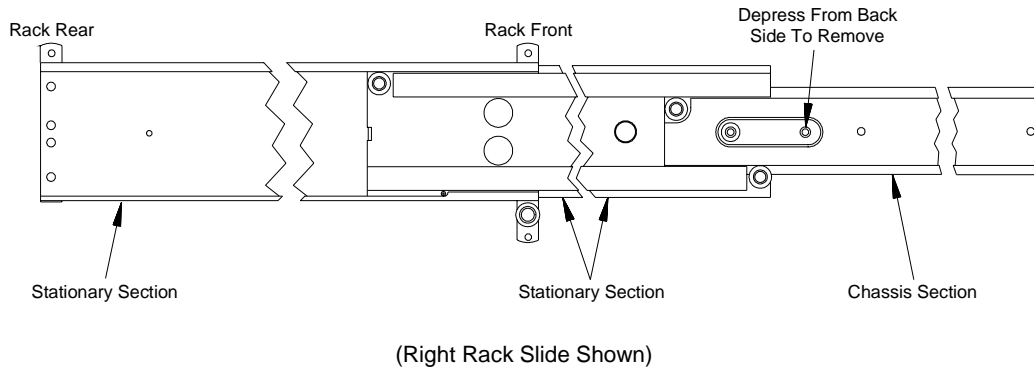

Figure 2-8. Removing the Rack Slide Chassis Section from the Intermediate Section.
5. Remove the chassis section from the intermediate section (Figure 2-8). (The chassis section will be connected to the mainframe in Step 7.) Slide the intermediate section back into the stationary section.